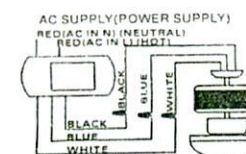

Fig. 4
- 6) Connect wires as in Fig. 4. The red wire from the receiver marked "AC in L" line connects to the hot wire in the electrical box (usually black or red). The red wire from the receiver marked "AC in N" line connects to the neutral wire in the electrical box (usually white).